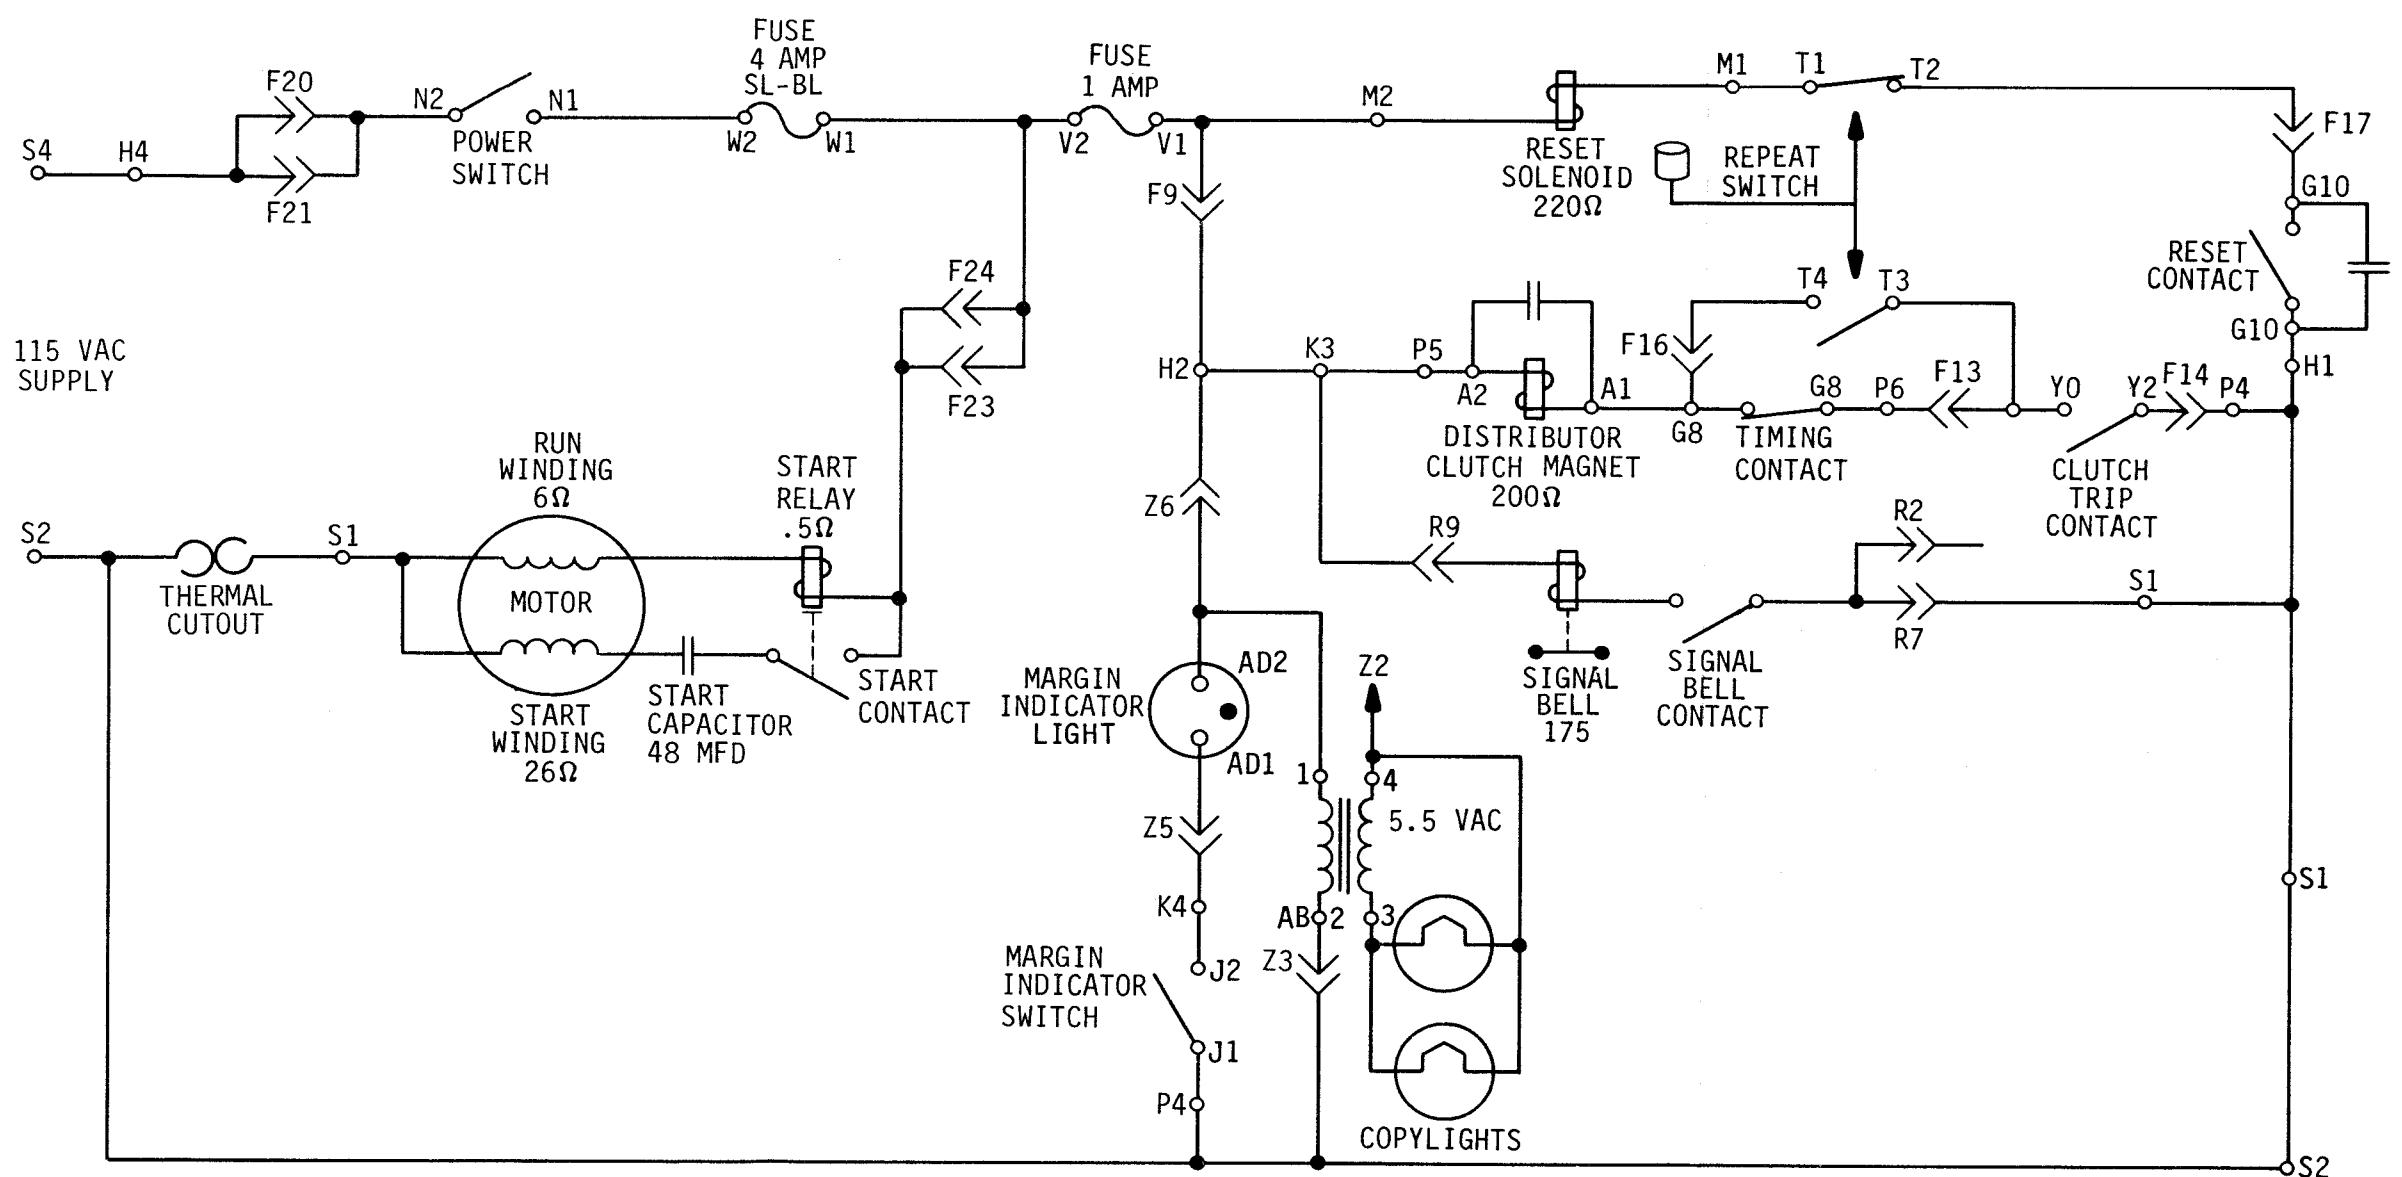
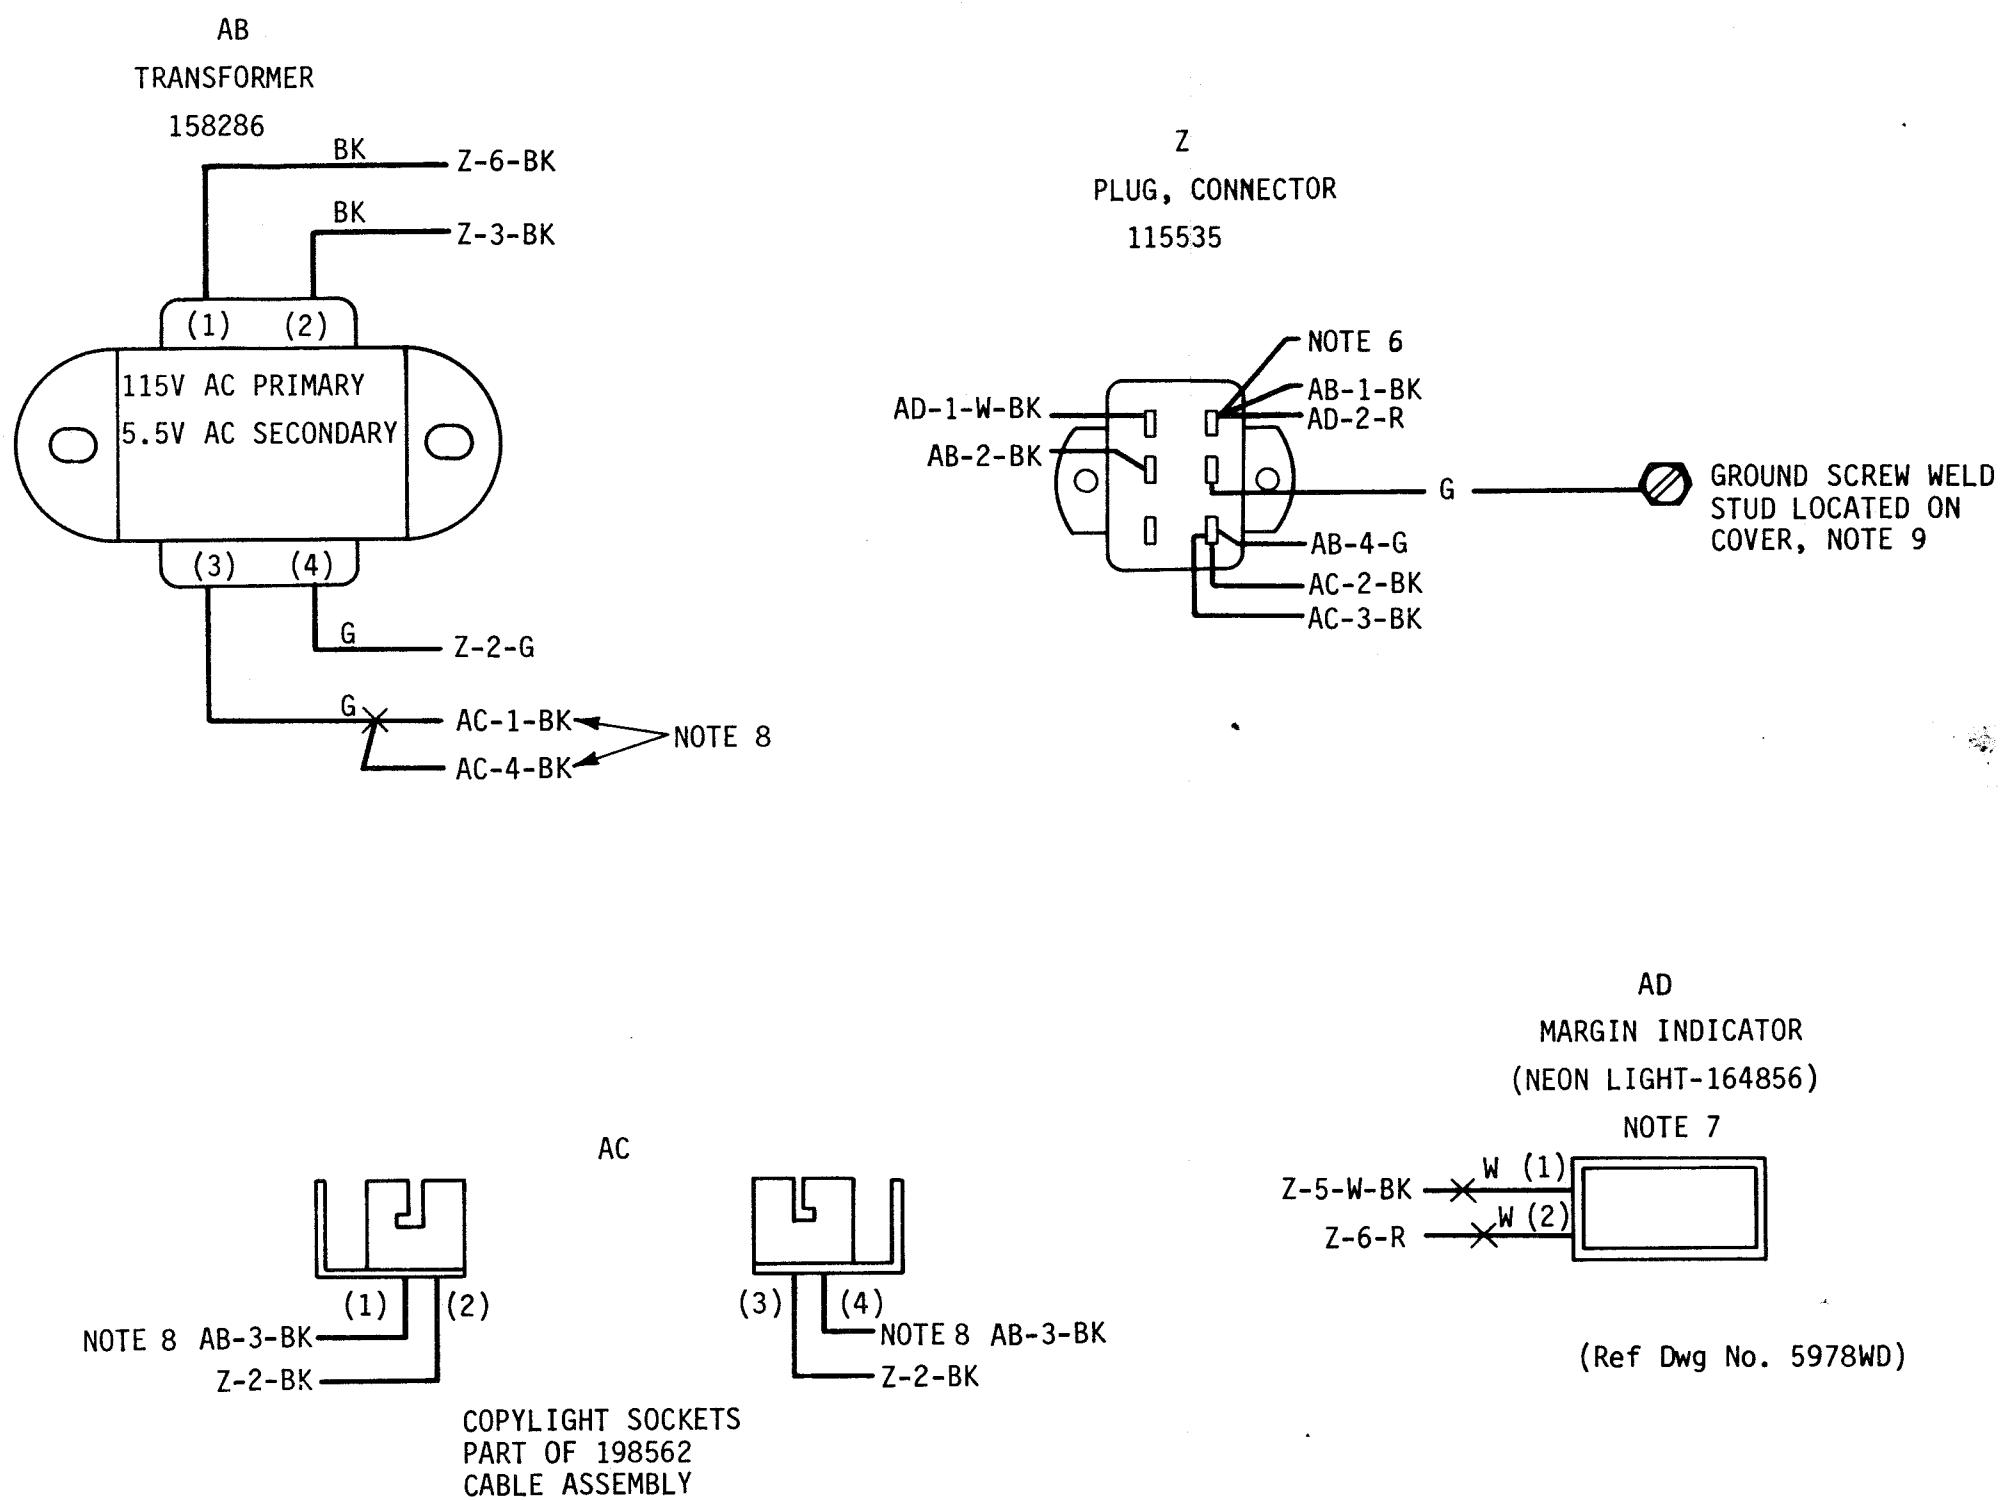

Figure 5-1. AC Power and Control Circuits
Figure 5-3. Wiring Diagram; Model 28 CPP Covers
d. Maintenance Schematic and Wiring Diagrams. Schematic and wiring diagrams are provided at the end of this chapter as aids to troubleshooting and maintenance of the teletypewriter sets. Figures 5-1 and 5-2 are schematic diagrams for high-level ac and dc circuits. Wiring diagrams for the high-level basic component assemblies are shown in figures 5-3 through 5-7. An index of the schematic and wiring diagrams for high-level equipment is provided in table 5-3.